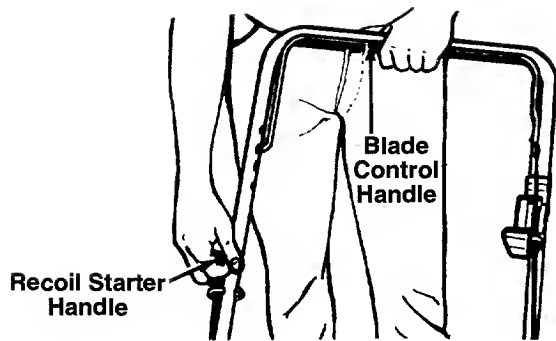

FIGURE 11.
4. Standing behind the unit, depress the blade control handle and hold it against the upper handle as shown in figure 11.